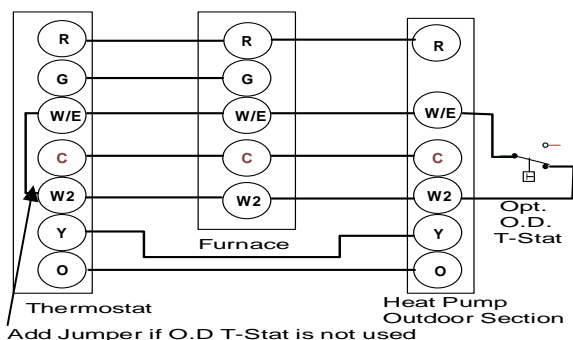

Figure 17: Typical Heat Pump / Heating / Cooling Connections
14. If a two stage outdoor unit is used then connect the "W2" wire from the outdoor unit to the black wires discussed in step 12 and secure with a wire nut. Refer to Figure 17.